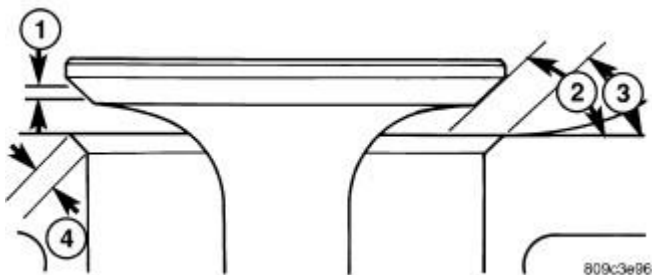

Fig. 292: Valve Face & Seat
4. When seat is properly positioned the width of the intake seats should be 0.75 to 1.25 mm (0.0296 to 0.0493 in.) and exhaust seats should be 1.25 to 1.75 mm (0.049 to 0.069 in.). Refer to **Fig. 292**.